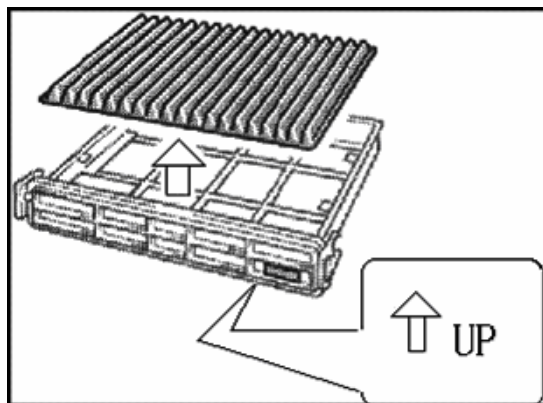

Figure 6-14
3. Take out filter element upwards, and check the ventilation property. Change the filter element for bad ventilation property, as shown in Figure 6-14.